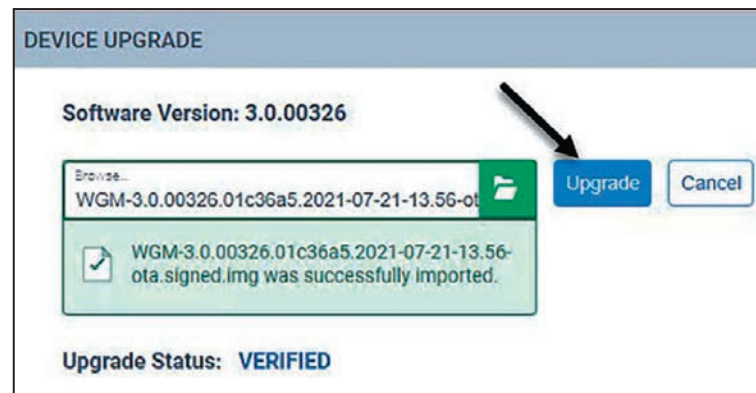

Figure 15. Upgrade status verified.
STEP 5. When verification is complete, a notification appears in the top right corner of the screen. Click on the X button to dismiss the notification. In the Device Upgrade dialog box, the **Upgrade** button will indicate blue and the **Upgrade Status** field will indicate "Verified." See Figure 15.